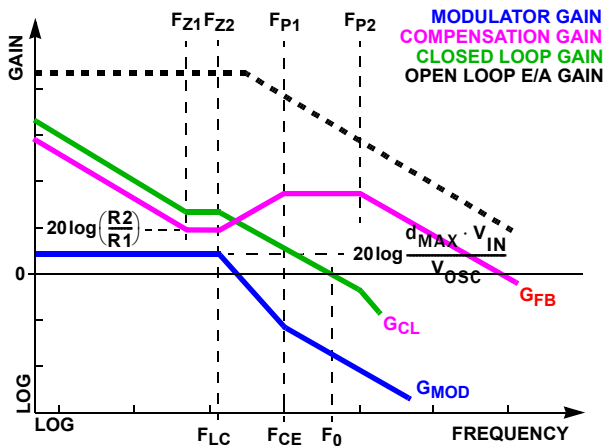

FIGURE 25. ASYMPTOTIC BODE PLOT OF CONVERTER GAIN
Figure 25 shows an asymptotic plot of the DC/DC converter's gain vs frequency. The actual Modulator Gain has a high gain
peak dependent on the quality factor (Q) of the output filter, which is not shown. Using the above guidelines should yield a compensation gain similar to the curve plotted. The open loop error amplifier gain bounds the compensation gain. Check the compensation gain at F_{P2} against the capabilities of the error amplifier. The closed loop gain, G_{CL} , is constructed on the log-log graph of Figure 25 by adding the modulator gain, G_{MOD} (in dB), to the feedback compensation gain, G_{FB} (in dB). This is equivalent to multiplying the modulator transfer function and the compensation transfer function and then plotting the resulting gain. A stable control loop has a gain crossing with close to a -20dB/decade slope and a phase margin greater than 45° . Include worst case component variations when determining phase margin. The mathematical model presented makes a number of approximations and is generally not accurate at frequencies approaching or exceeding half the switching frequency. When designing compensation networks, select target crossover frequencies in the range of 10% to 30% of the per-channel switching frequency, F_{SW} .